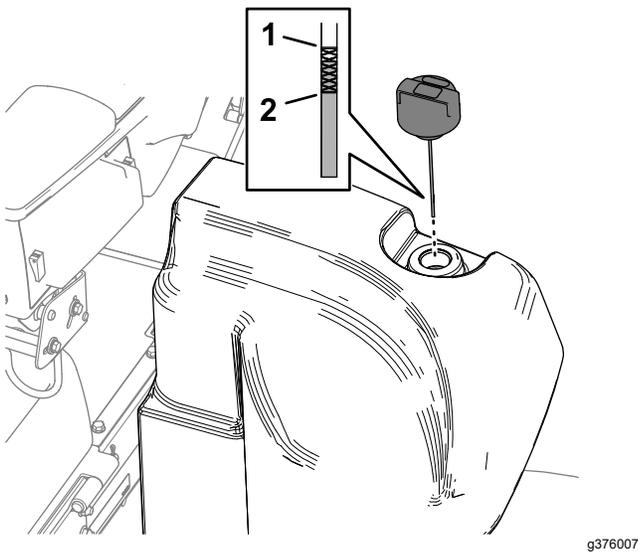

Figure 112
2. Clean the area around the filler neck and the cap of the hydraulic tank (Figure 112).